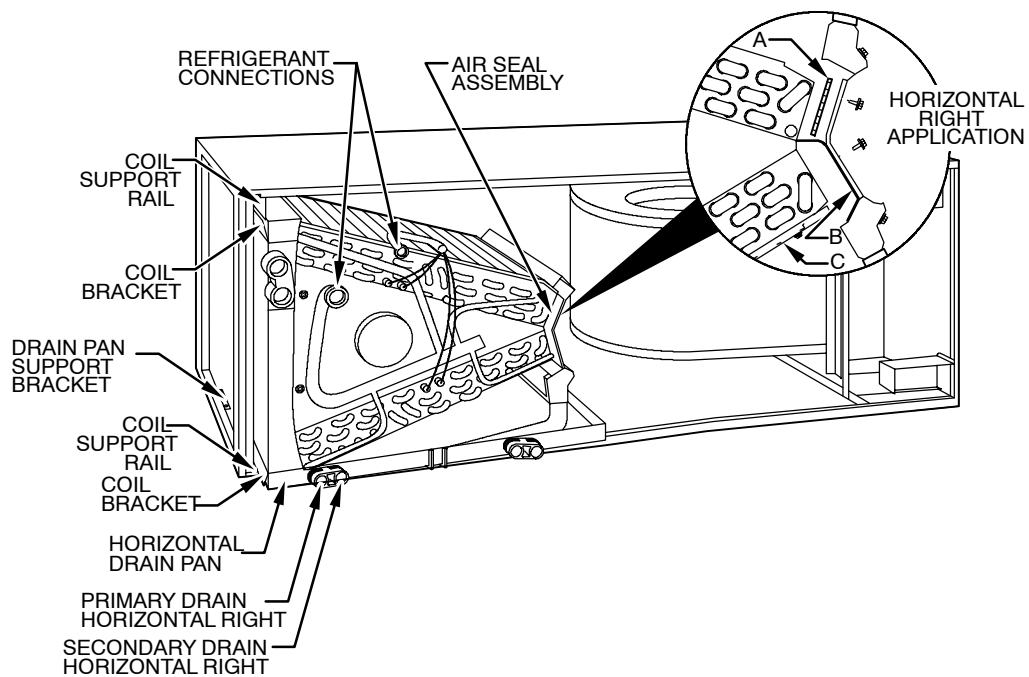

Fig. 6 - Conversion for Horizontal Right Applications Using A-Coil
1. Remove blower and coil access panels. (See Fig. 6.)
- a. Remove air-seal assembly from coil by removing 4 screws. (See Fig. 6.)
- b. Remove air splitter (B) from coil seal assembly by removing 3 screws. (See Fig. 6-factory shipped inset.)
- c. Remove filter plate (A) and install air splitter (B) in place of filter plate.
- d. Install filter plate (A) as shown in horizontal right application.
- e. Remove condensate troughs (C) and install on opposite tube sheets.